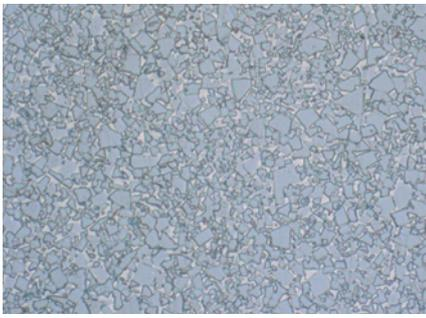

Fig. 3:
- Composite materials that do not form alloys, for instance copper/tungsten for electrical contacts, cemented carbide cutting tools (Fig. 3), materials for brake linings and clutch facings, diamond cutting tools, or metal matrix composites.